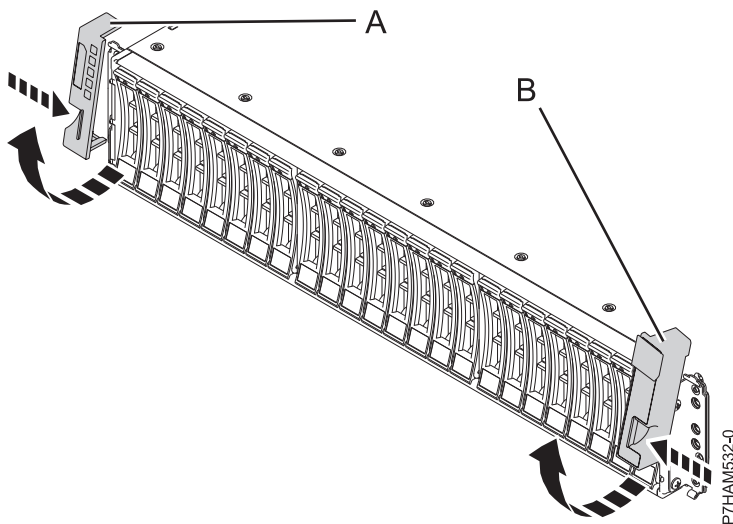

Figure 1. Removing the side covers
3. At the front of the rack, remove the left side cover **(A)** and the right side cover **(B)** to show the mounting brackets. Pinch the release to rotate the cover up and off from the chassis flange as shown in Figure 1.